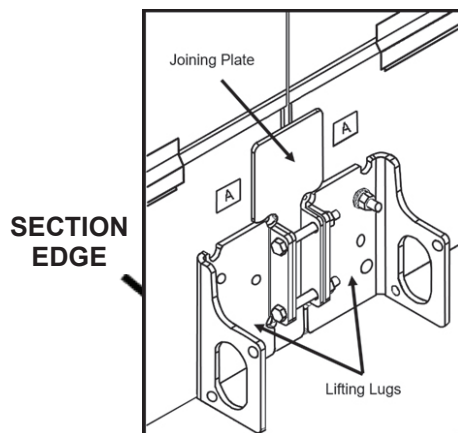
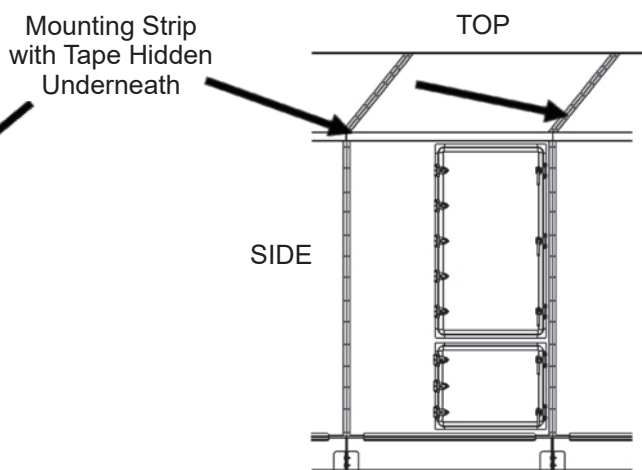

Figure 34b – Cabinet Identifier, Vertical and Base Rail Fastening
Figure 34d – Top Cabinet Fastening
- At each seam place the Joining Plate between each sections lifting lugs. Insert two bolts through section lifting lug, joining plate, and then through the next section lifting lug as shown in Figure 34b. Tighten the nut to ensure that both sections are securely fastened together at the base.
- After the cabinet sections are pushed together vertical panel mounting strips and mounting tape will be used to seal and bond the sections together. These should be secured after the base lifting lug angle brackets have been secured. Apply the provided mounting tape to the seam of both mating cabinet sections (see Figure 34b). Align the provided mounting strips with each section edge and apply pressure to secure the strips to the cabinet sections. Use provided drive #8 screws through all holes in each mounting strip. Repeat the above steps to install the top mounting strip sections (see Figure 34d).